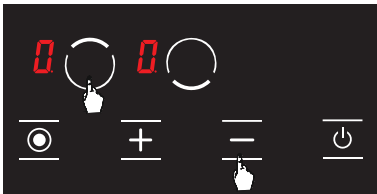

Figure 21
- Press upper hob selection key (**⦿**) and minus key (**⊖**) simultaneously. (see Fig. 21) You shall hear a short warning signal at this time. Then, remove your fingers from the stove control panel.